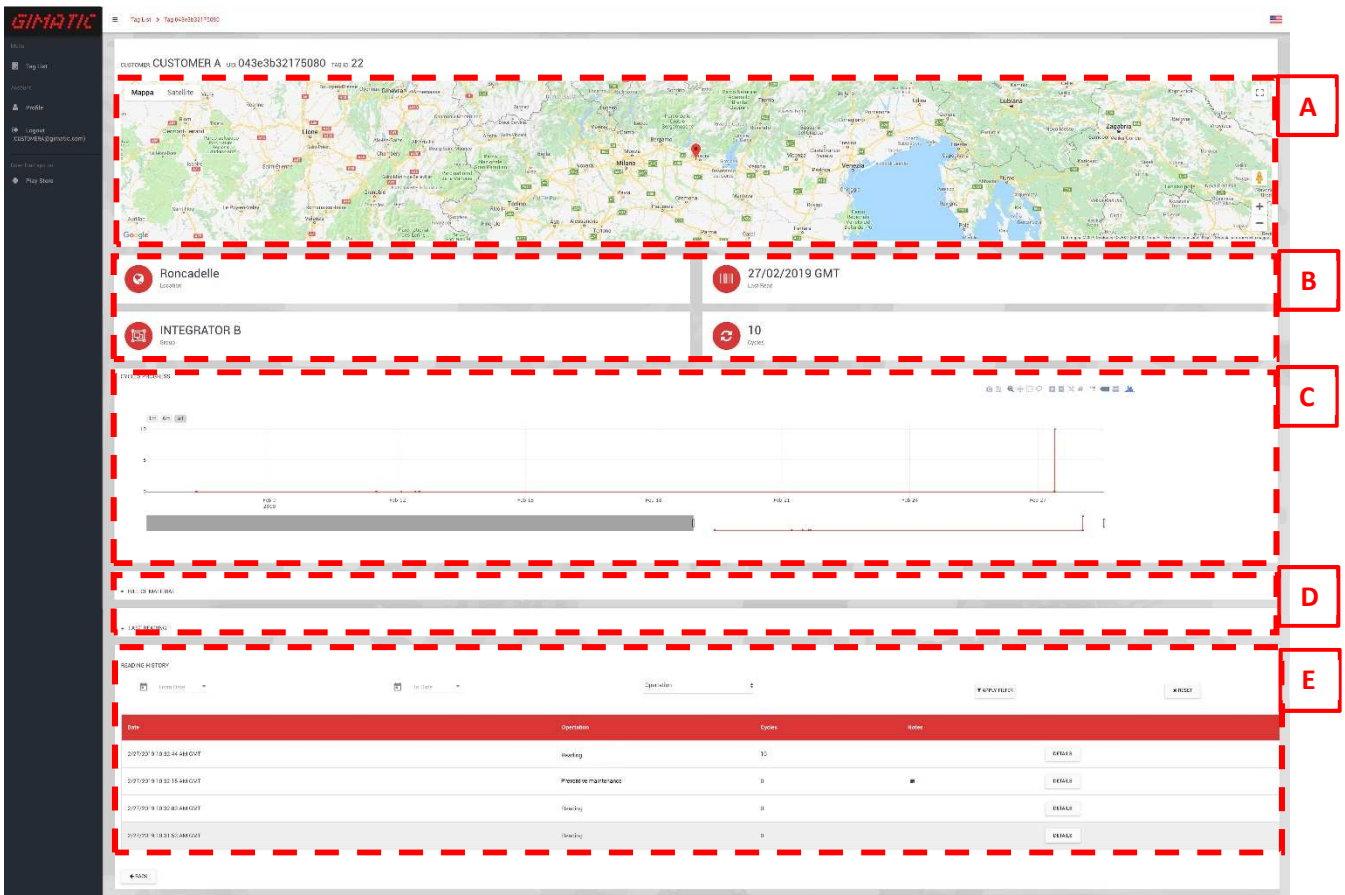

Figure 21
- DETAILS: clicking on it, it will appear another window as can be seen in Figure 21;
Opening the page concerning tag details, all the information about a specific tag is available, like geolocation, fast information, chart with cycles progress, bill of material and all the readings done (Figure 21).